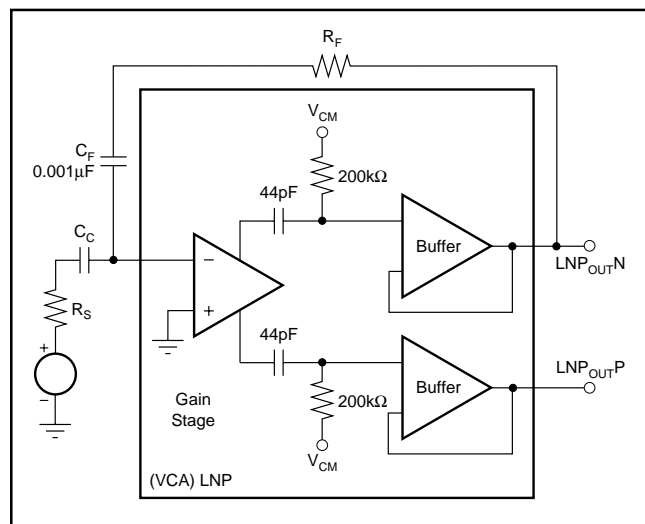

FIGURE 8. Low-Frequency LNP Time Constants.
When employing active feedback, the user should be careful to avoid low-frequency instability or overload problems. Figure 8 illustrates the various low-frequency time constants. Referring again to the input resistance calculation of Equation (3), and considering that the gain term “A” falls off below 21kHz, it is evident that the effective LNP input impedance will rise below 3.6kHz, with a DC limit of approximately R_F. To avoid interaction with the feedback pole/zero at low frequencies, and to avoid the higher signal levels resulting from the rising impedance characteristic, it is recommended that the external R_FC_C time constant be set to about 5μs.